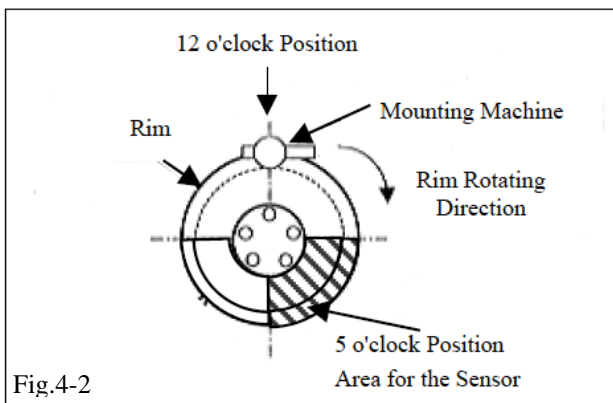

Fig.4-2
- (e) Re-position the wheel on the mounting machine with the sensor at ~ 5 o'clock position (shaded area in Fig. 4-2)